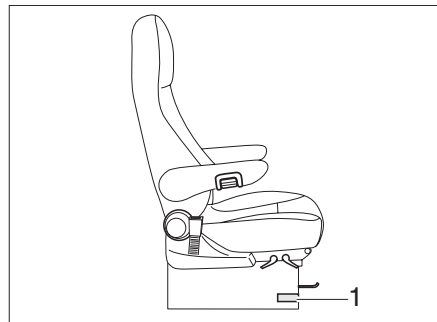

Fig. 52 Driver's seat and front passenger's seat
- ▶ Push or pull the level to turn the seat (Fig. 52,1). The seat is released from the locking device.
- ▶ Grip lever (Fig. 52,1) under seat and pull it forward.
- ▶ Release lever (Fig. 52,1) again.